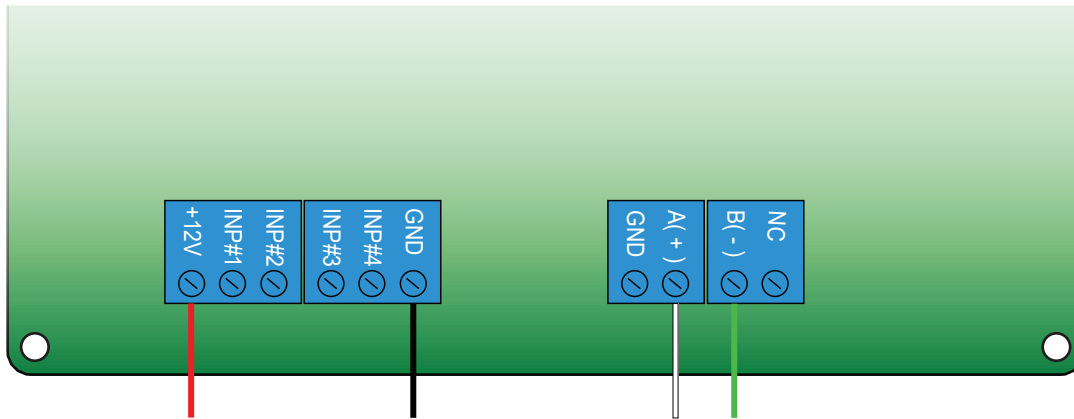

Fig.1.8
1. Wire the Motor Controller as shown in Fig.1.8 below: